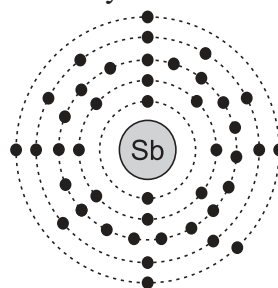

Fig. 14.9: Schematic electronic structure of antimony.
a) n-type semiconductor: When silicon or germanium crystal is doped with a pentavalent impurity such as phosphorus, arsenic, or antimony we get n-type semiconductor. Figure 14.9 shows the schematic electronic structure of antimony.